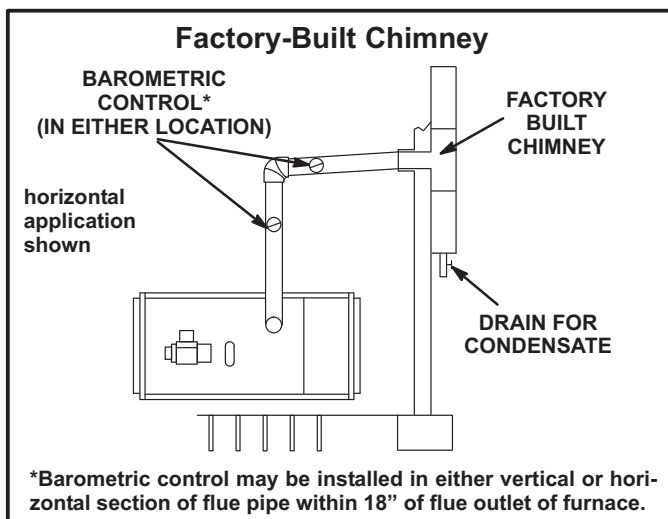

Figure 9
- 15- All vent pipe run through unconditioned areas or outside shall be constructed of factory built chimney sections. See figure 9.